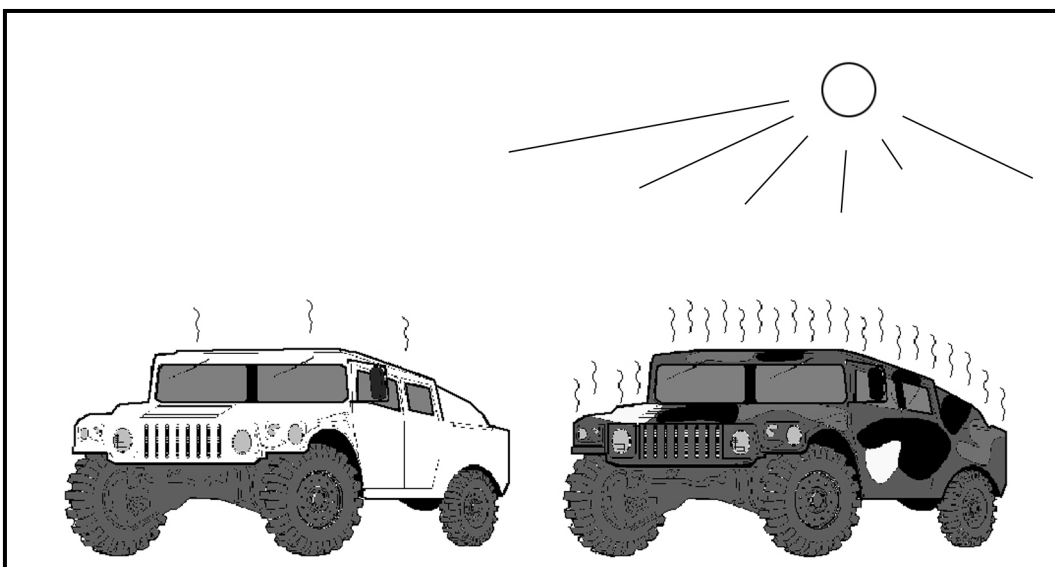

Figure C-5. Infrared affected by color.
(1) **Color.** Light colored objects, such as a vehicle with desert camouflage, reflect more IR than they absorb, and heat slowly in the sun (Figure C-5). Dark colored objects, such as a vehicle with woodland camouflage, absorb more IR than they reflect, and heat quickly in the sun.